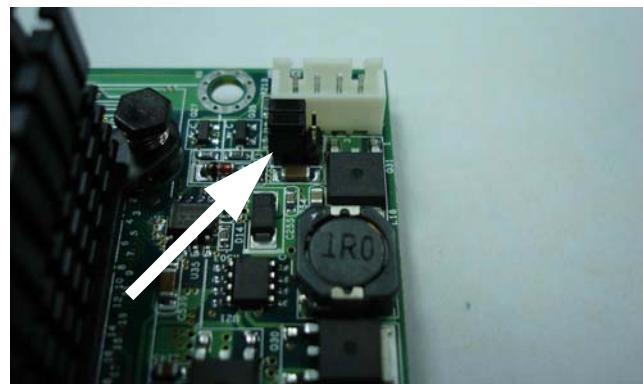

Figure 5-4
Step 3: Please adjust AT & ATX Selector on “ JP1” to short 3-5, 4-6 pins, then it can support ATX power scheme. (Figure 5-4)